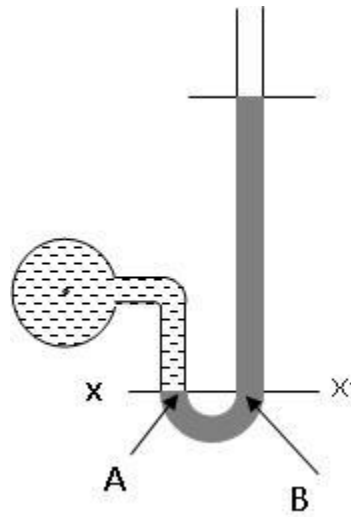

Fig. 5.3 Selection of datum line XX'
Step 2: Consider a suitable datum line XX' . It should be in such a manner so that manometer liquid touching the datum line in the two limbs is the same. At figure 5.3, point A and B are on the datum line, liquids is same in both the columns i.e. left and right limbs.